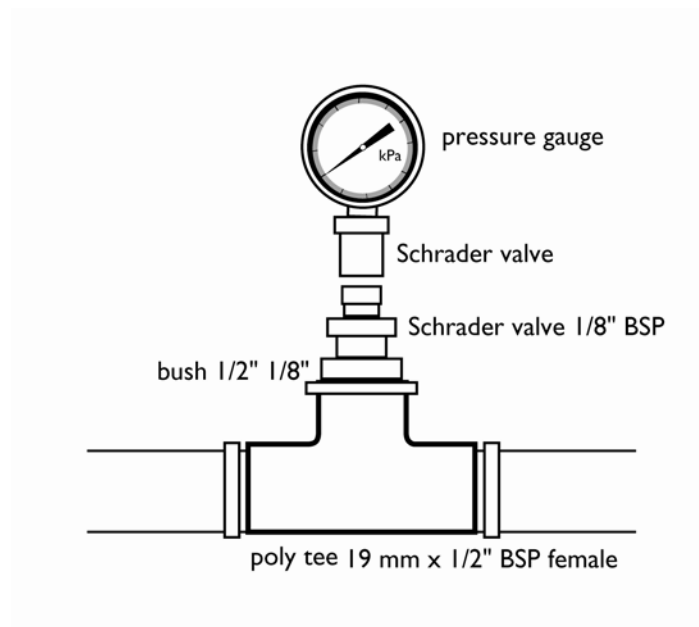

Figure 2. Schrader valve
- fittings such as reducing bushes and a Schrader valve (Figure 2) to attach to the lateral, or an adaptor to check pressure at the flushing points.